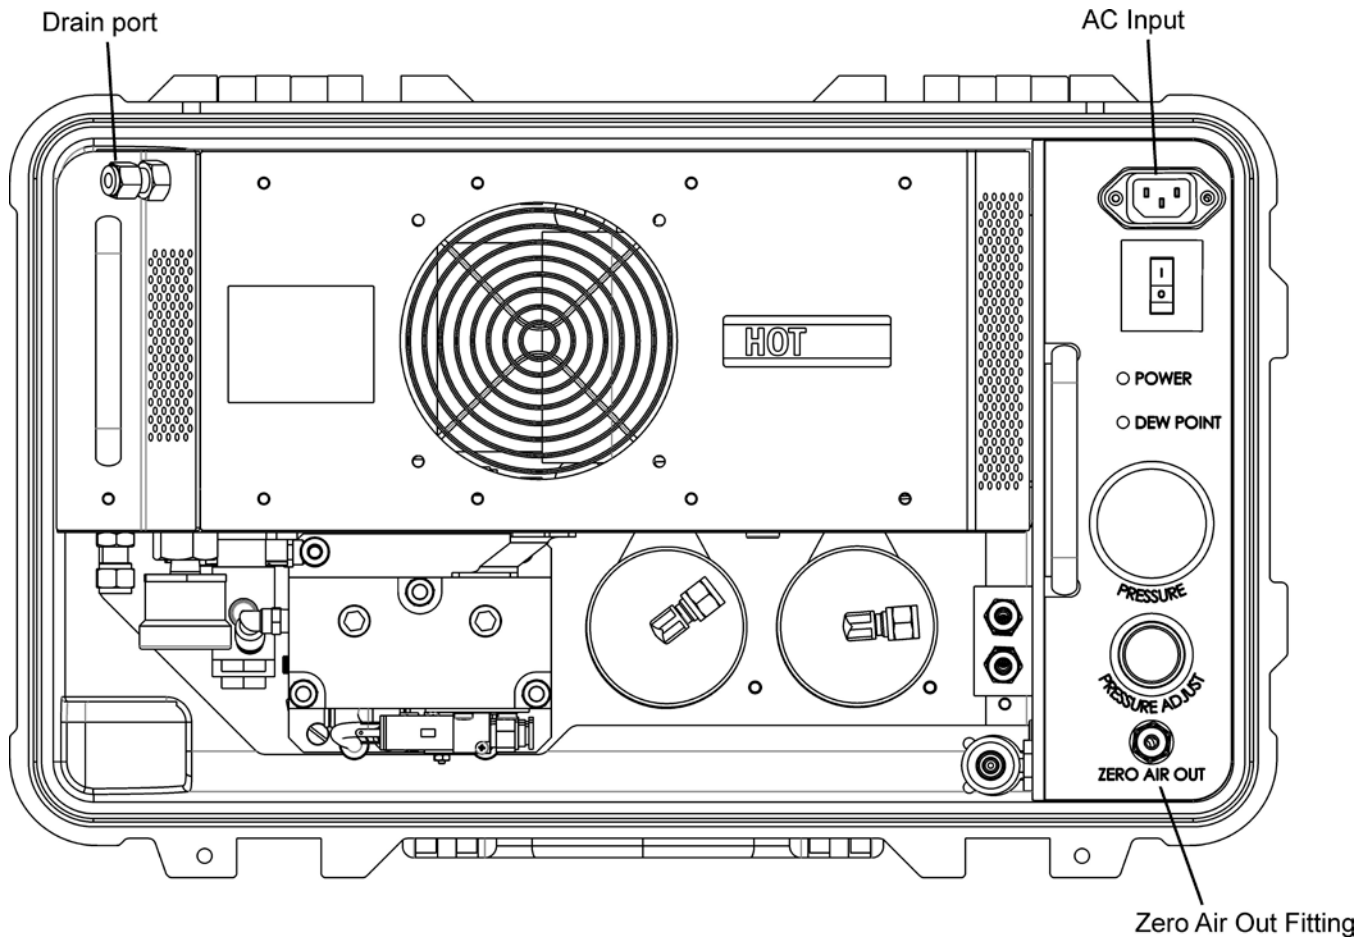

Figure 3-1: 751H Startup Connections
| FIGURE 3-1: | 751H STARTUP CONNECTIONS ..... | 14 |
Figure 3-1 shows the components in the Model 751H instrument layout that are pertinent to starting up the instrument.
1. Turn on the instrument panel POWER SWITCH (Figure 3-1).